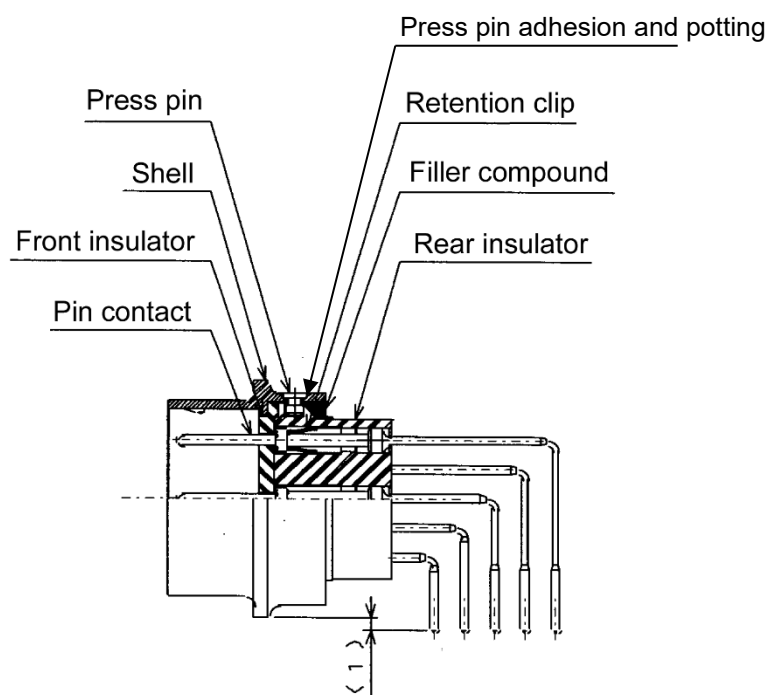

Figure 4. ND114-\*P-AB(1)
- (6) Inclusion of contacts: Blank denotes that the connector includes contacts. “L” denotes that the connector does not include any contact. For a crimp-contact connector, the connector includes type “22D” contacts.
- (7) Contact category: Applicable only to crimp termination type. “22D” denotes crimp contact of size 22D.
- (8) Grommet and location plate: “R” denotes that the connector has a rear grommet. Blank denotes that the connector has no grommet. “B” denotes that the connector of right angle through hole type has no location plate, and blank denotes that the connector has a location plate
- (9) Length of right angle through hole: If the length between the tip of through hole and the connector flange surface is not  $5^{+0.8}_{-0.5}$  mm, it may be specified in parentheses at the end of the part number. For example, size  $1^{+0.8}_{-0.5}$  shall be indicated as ND\*14-104S-A(1) as shown in Figures 4 and 5.